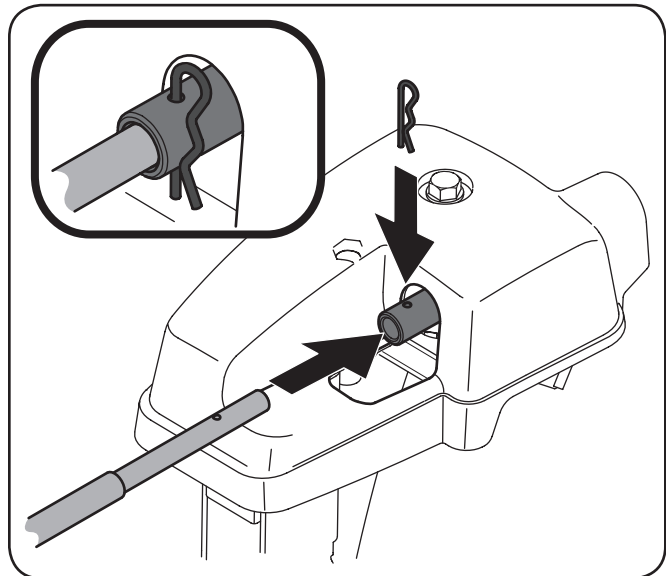

Figure 3-7
5. Insert flex shaft into rear of the chute directional control head. Secure the flex shaft to the chute control head with the hairpin clip removed earlier. See Figure 3-7.